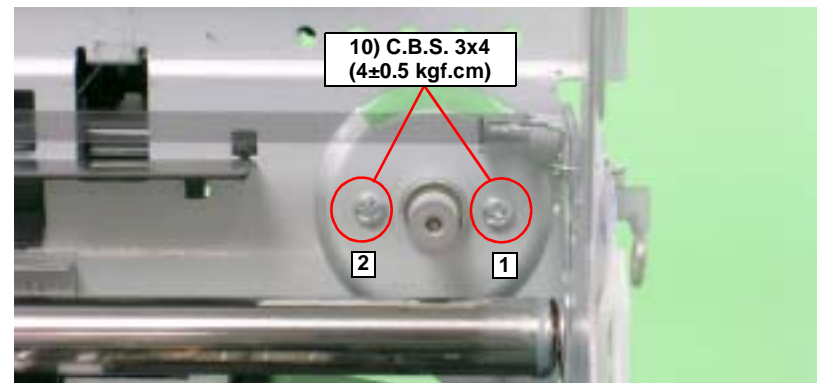

Figure 4-131. Removing the CR Motor
- Tighten the screws in the order shown in Figure 4-131.